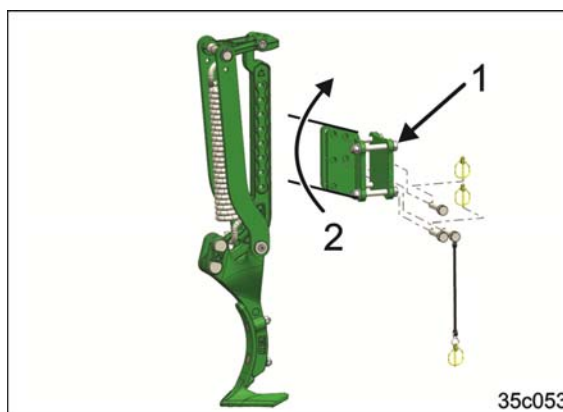

Fig. 127
5. Remove the fastening bolts for the tractor wheel mark eradicator bracket (Fig. 127/1).
6. Turn the tractor wheel mark eradicator bracket upwards (Fig. 127/2).
7. Tighten the fastening bolts for the tractor wheel mark eradicator bracket (Fig. 127/1).